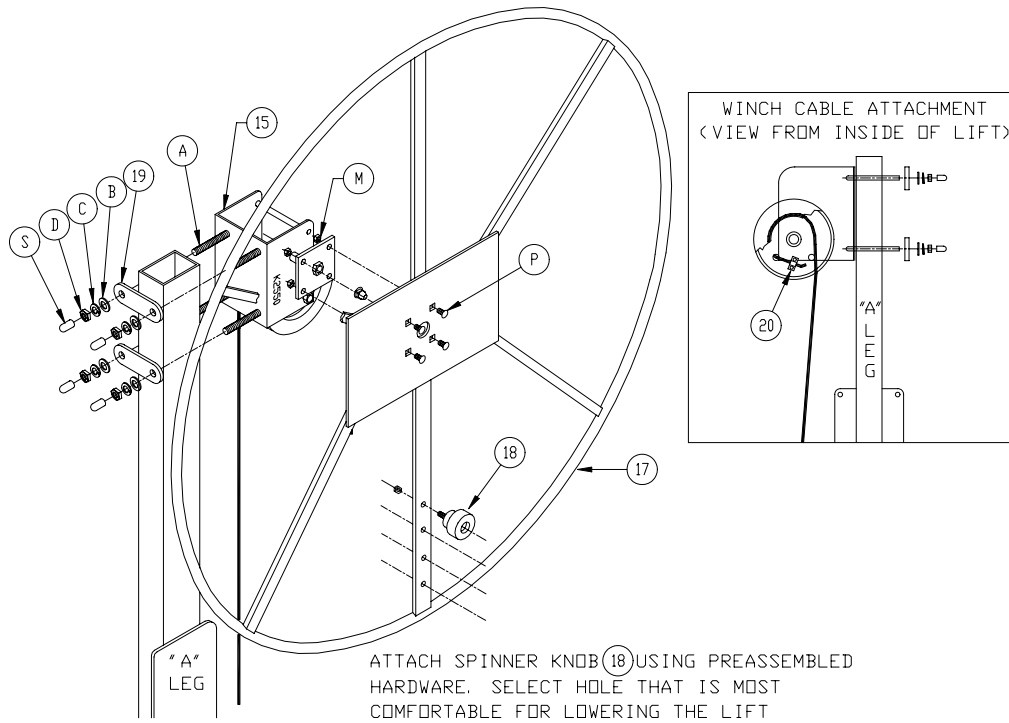

Figure 3-9
1. Refer to Figure 3-9. Attach winch to vertical leg "A" approximately 12 inches below the top of the leg. Lightly fasten with clamps. The handwheel adapter plate should be facing away from the lift as shown.
2. Refer to Figure 3-9 Starting from the bottom of winch, reeve the cut end of cable between drum and winch mounting frame. Wrap cable over top of drum, through hole in RIGHT SIDE of drum flange and under cable clamp, with one inch of cable extending past clamp.